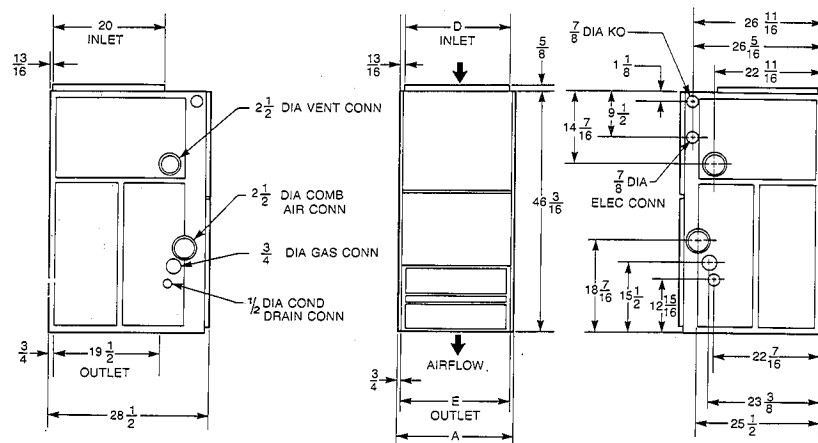

Fig. 5—Dimensional Drawing
1. See Fig. 5 for dimensions and location of supply-air opening in furnace bottom.